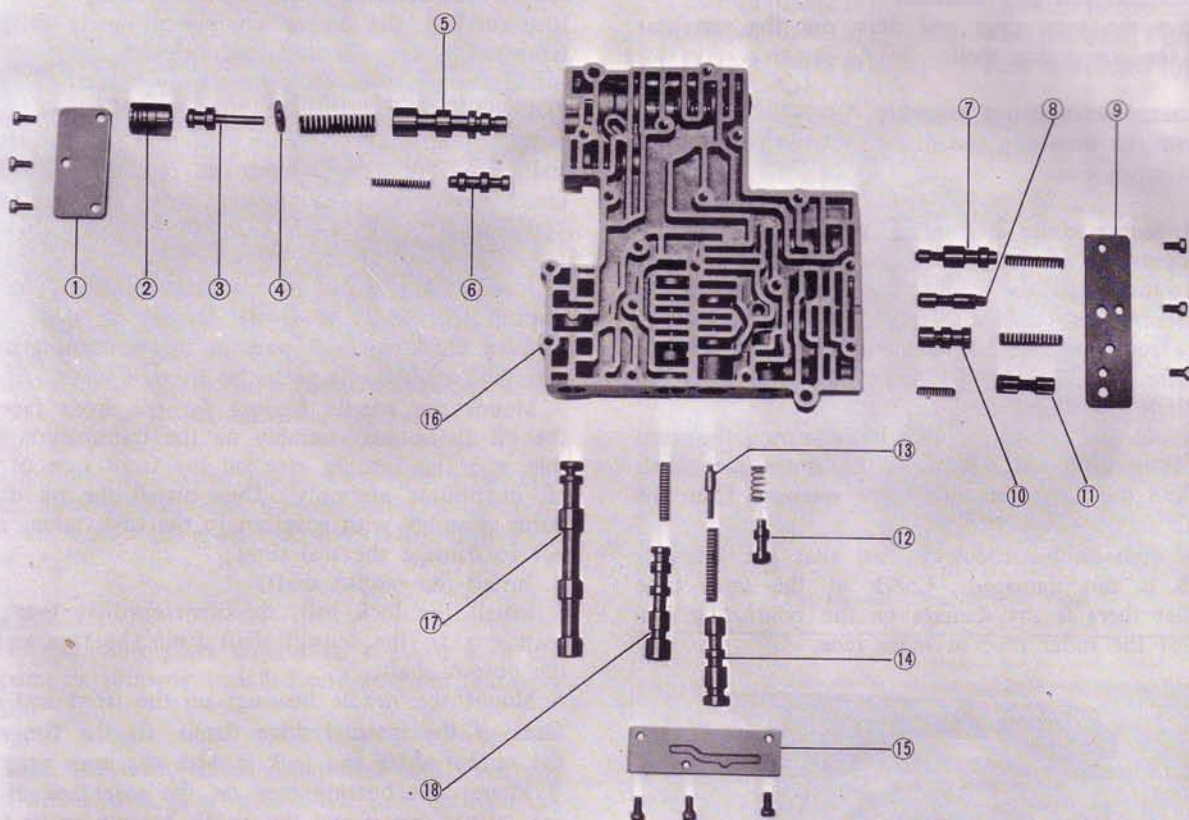

Fig. 7A-44 Component parts of control valve
- a. Install small valves and springs by referring to the components parts of control valve Fig. 7A-44.